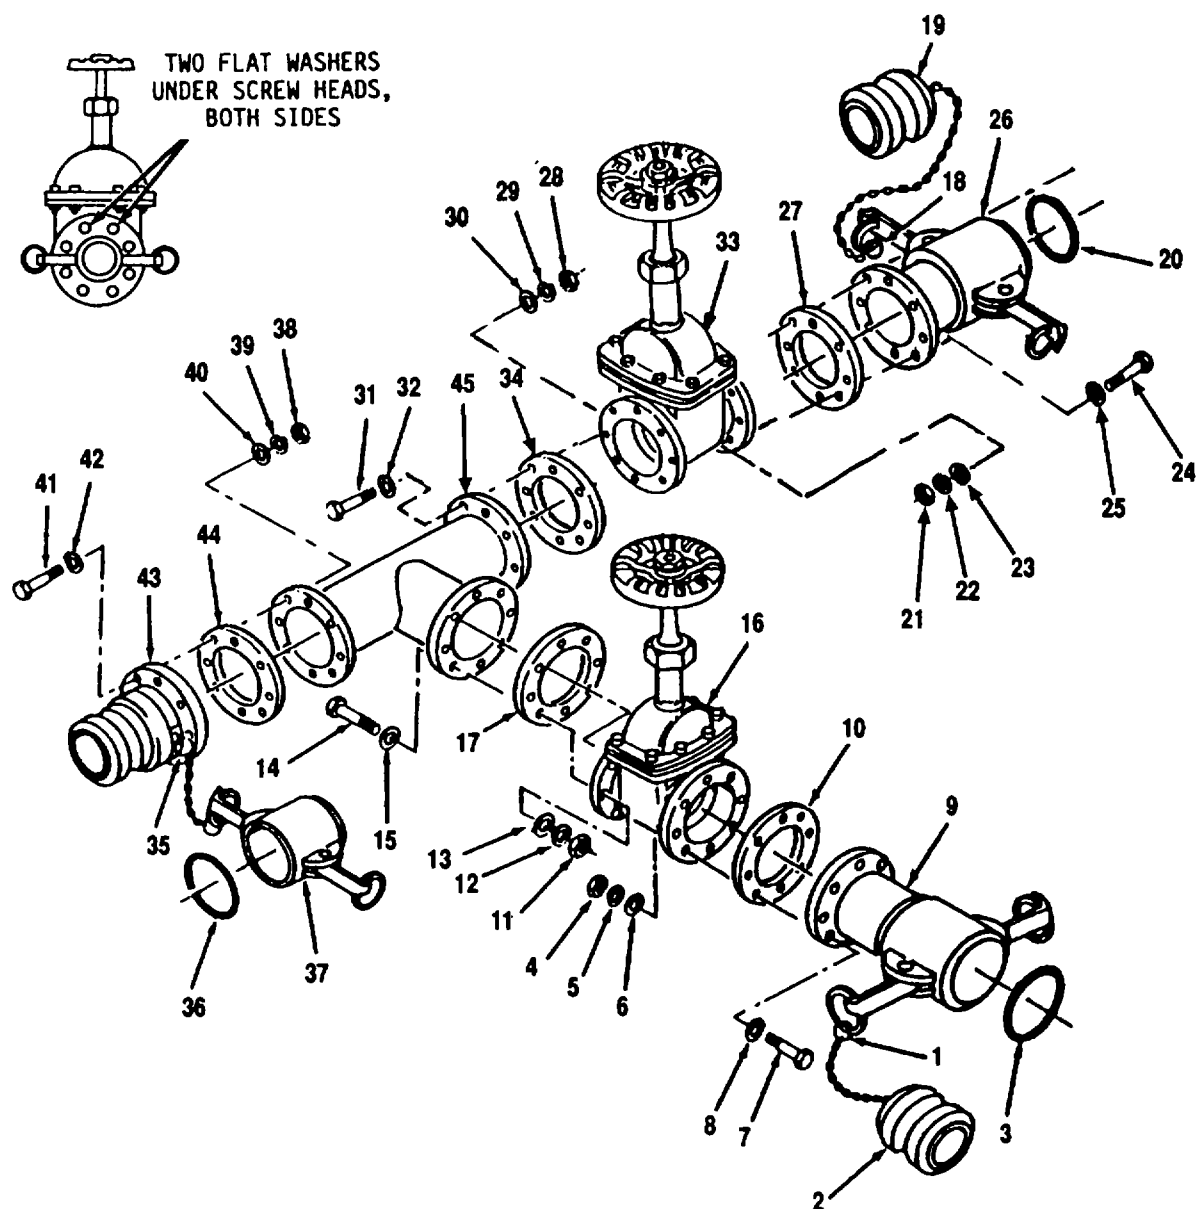

Figure 4-12. Tee and Dual Gate Valve Assembly (9148-Y1) Disassembly
- a. Disassembly. Refer to Figure 4-12.
- (1) Disconnect ring (1) from female coupling (9) and remove plug (2).
- (2) Remove gasket (3) from female coupling (9).
- (3) Remove eight nuts (4), lockwashers (5), flat washers (6), screws (7) and ten flat washers (8).
- (4) Separate female coupling (9) and gasket (10) from gate valve (16).
- (5) Remove eight nuts (11), lockwashers (12), flat washers (13), screws (14) and ten flat washers (15).
- (6) Separate gate valve (16) and gasket (17) from tee (45).
- (7) Disconnect ring (18) from female coupling (26) and remove plug (19).
- (8) Remove gasket (20) from female coupling (26).
- (9) Remove eight nuts (21), lockwashers (22), flat washers (23), screws (24) and ten flat washers (25).
- (10) Separate female coupling (26) and gasket (27) from gate valve (33).